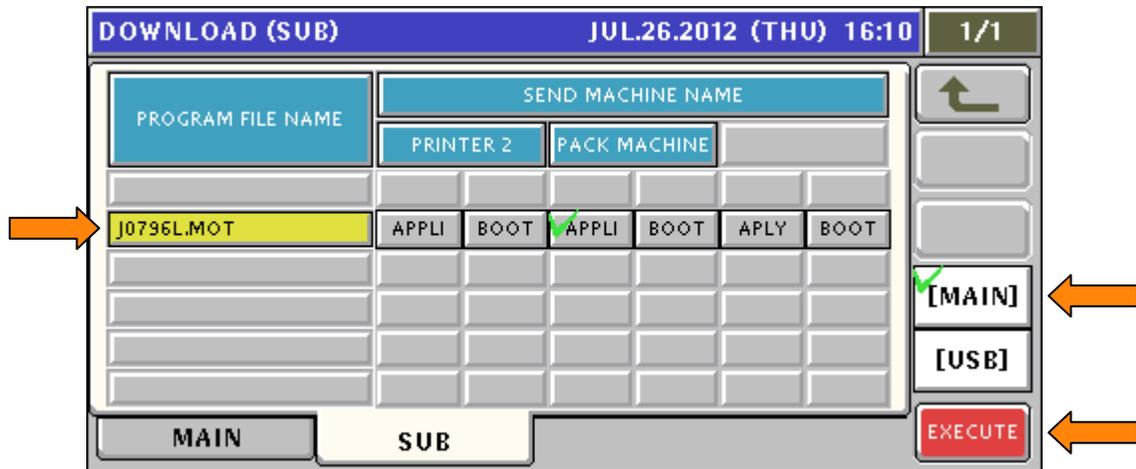

Figure 5.4. Download WM-Nano Application Firmware
- g. Press the firmware version to be installed. It will be highlighted. See Figure 5.4.